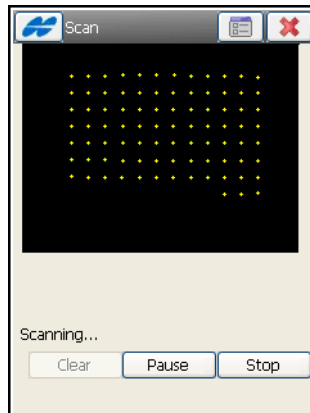

Figure 8-75. Scanning without Images
4. View the scanning in progress. As the total station measures points within the pre-defined area, each point will display on the screen (Figure 8-75).